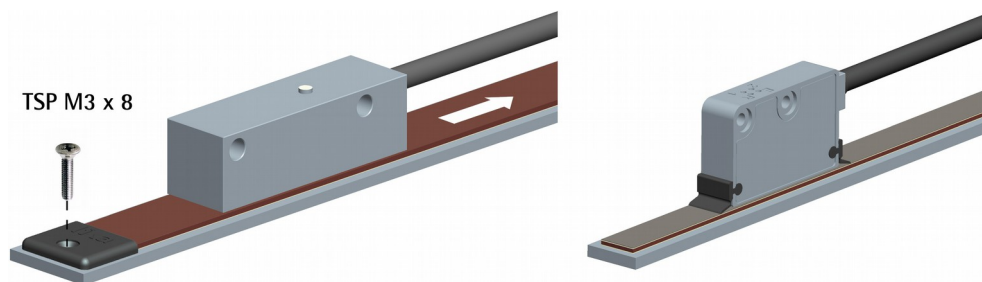
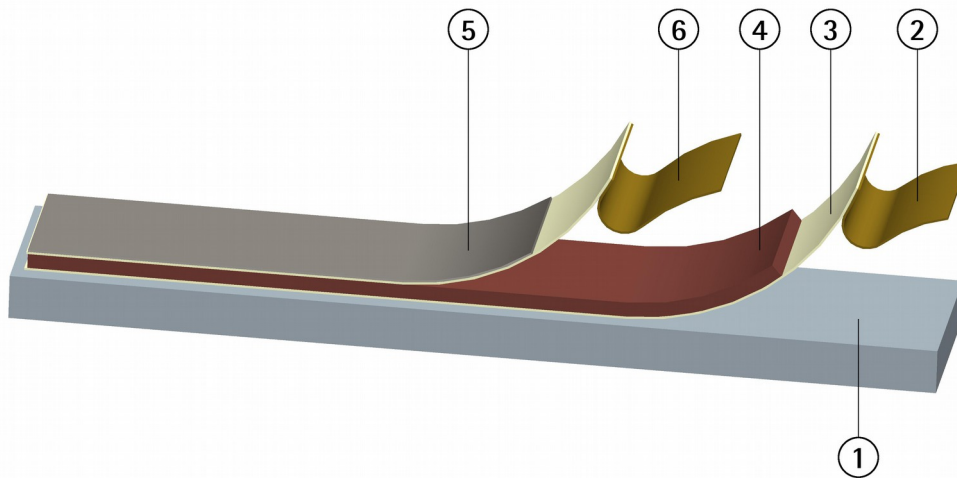

Figure 1 - Mounting the scale with adhesive tape
Figure 2 - Mounting the magnetic tape
#### 3.7.1 Mounting the scale with adhesive tape (Figure 1 and Figure 2)
- Stick on the magnetic tape as explained in the "3.7.1 Mounting the scale with adhesive tape (Figure 1 and Figure 2)" section on page 18;
The mounting procedure for circular / angular applications is the same as for linear applications, refer to the "3.7.1 Mounting the scale with adhesive tape (Figure 1 and Figure 2)" section on page 18.